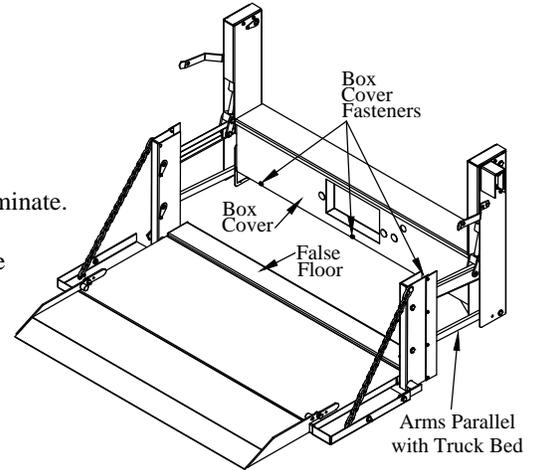

Figure 1: Box cover and fasteners.
2. **REMOVE** the box cover fasteners (Figure 1).
- B) **Push** the hidden "LIFTGATE ACTIVATED" switch twice within one (1) second. The red "LIFTGATE ACTIVATED" LED will illuminate. With both lights on, the liftgate can be raised or lowered. If not used for 90 seconds, the control will automatically shut off.
5. **LOWER** the liftgate until the arms are parallel with the truck bed (Figure 1)